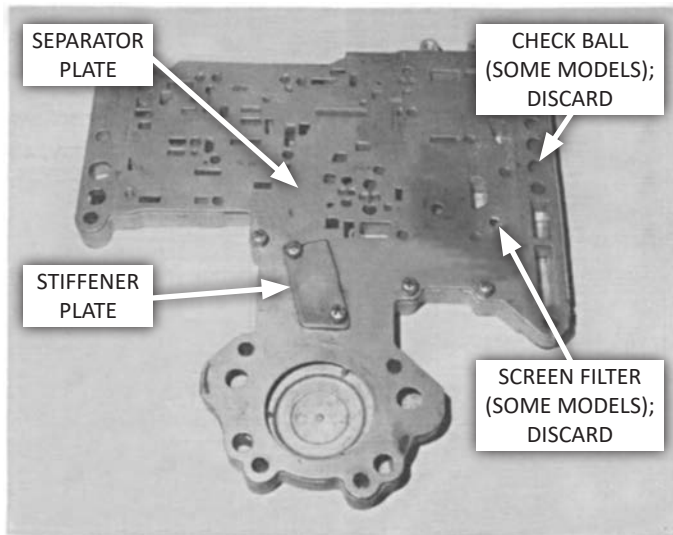

FIG. 9
Carefully lift the transfer plate assembly off the valve body casting, and set it on the bench with the separator plate facing up (Fig. 9).
12. On the transfer plate assembly (Fig. 9), note the shape and orientation of the stiffener plate. Remove the separator and stiffener plates (4-5 screws; varies by model). If there is a check ball and/or filter screen, discard them.